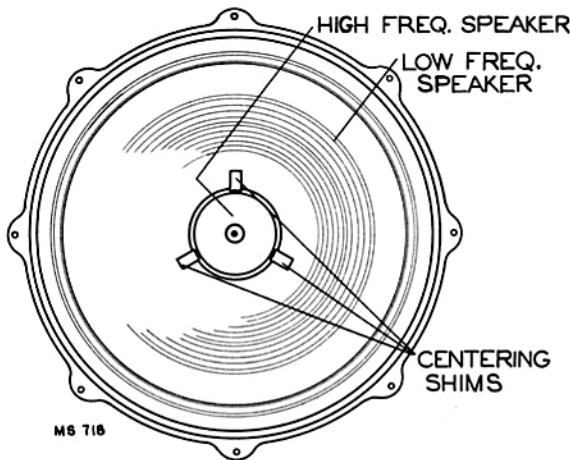

Fig. 21
Centering the Low Frequency Cone (see Figure 21)—
7. Place low-frequency cone in place, using .0001 inch shims (as shown in Figure 21).